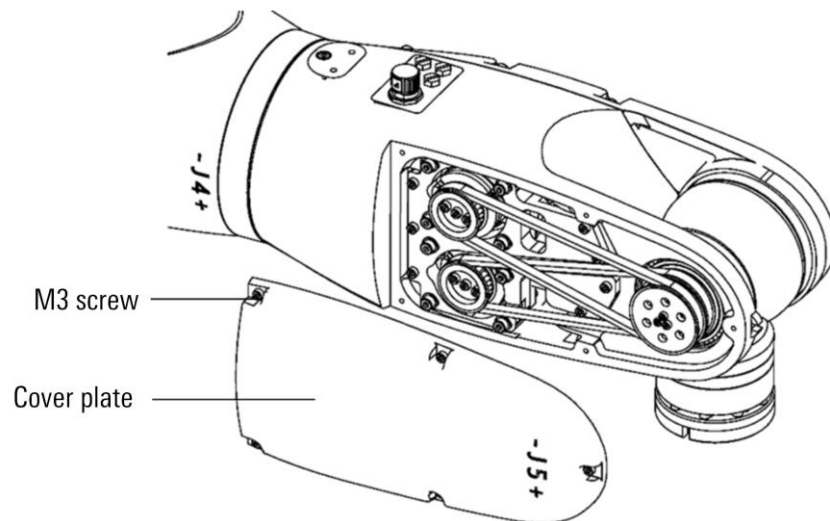

Figure 12-5 Remove cover
- Step3. Remove and operate the machine cover and five M3 screws, as shown in Figure 12-5.